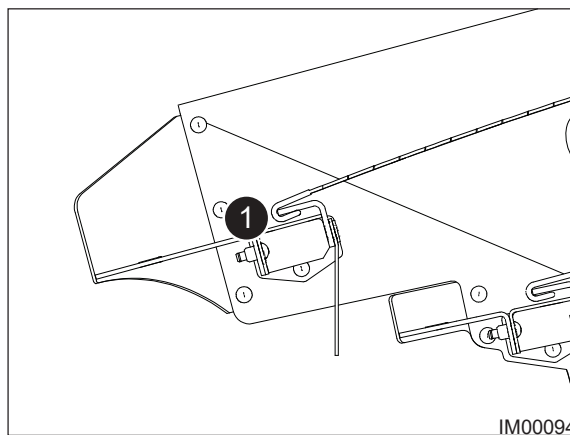

Fig: 11.33 - Retaining Bar
9. Slide the new mesh deck into the screen box and ensure the holding hook is positioned correctly on the retaining bar (Item 1, Fig: 11.33).